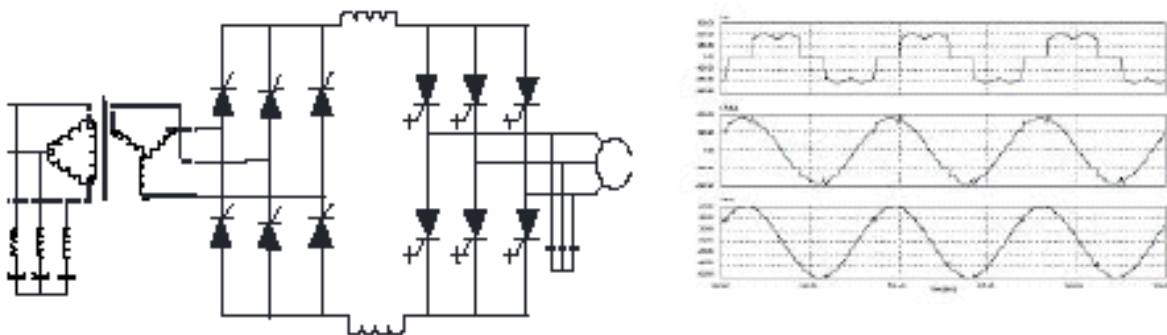

Figure 1 - 6-pulse rectifier with input waveforms
- A **6-pulse thyristor-controlled rectifier with passive-tuned harmonic filters** is shown in Figure 1. The line current before and after the filter is shown. The input waveforms shown in Figure 1 illustrate that the current before the filter contains the 5th, 7th and 11th harmonics, but the current after the filter is more sinusoidal since these harmonics are redirected through the tuned filters (tuned at 5th, 7th, and 11th harmonic respectively). The 6-pulse rectifier is ideal in installations where power supply to the drive is limited and cannot exceed a certain percentage of total plant load. In installations where harmonics are not a major concern, the 6-pulse configuration is the most economical one. An AC line reactor is also offered as a recommended option on installations involving new motors.